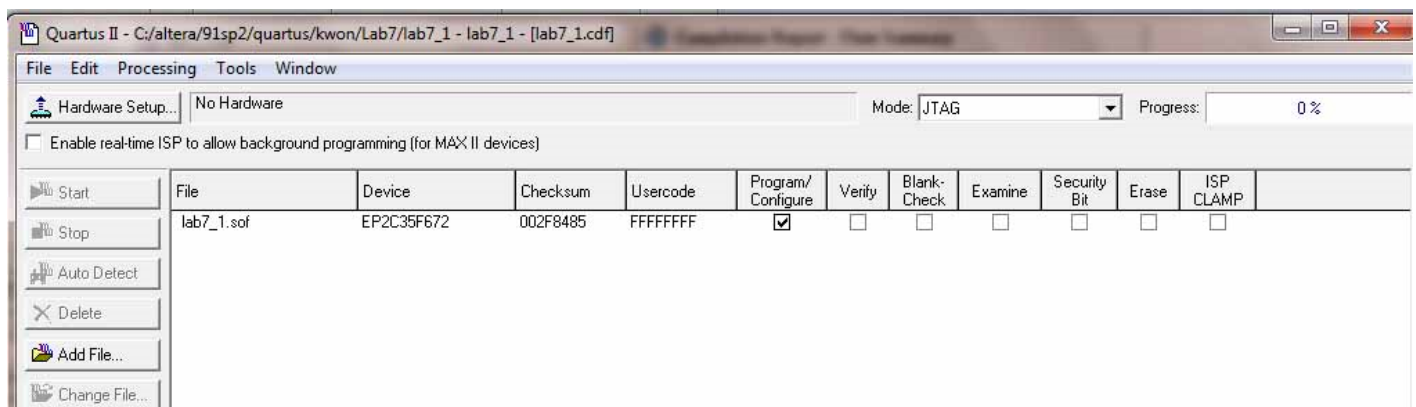
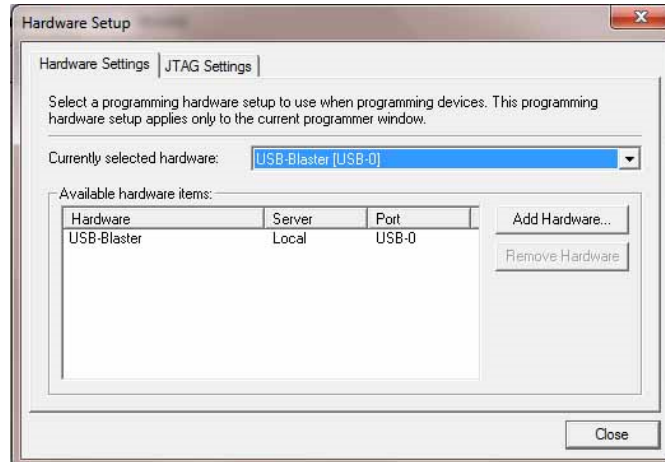

Figure 7-11
Figure 7-12
- Select **Tools > Programmer** to reach the window in Figure 7-11. Here it is necessary to specify the programming hardware and the mode that should be used. If not already chosen by default, select JTAG in the Mode box. Also, if the USB-Blaster is not chosen by default, press the Hardware Setup... button and select the USB-Blaster in the window that pops up, as shown in Figure 7-12.
- Observe that the configuration file *lab7_1.sof* is listed in the window in Figure 7-11. If the file is not already listed, then click Add File and select it. This is a binary file produced by the Compiler's Assembler module, which contains the data needed to configure the FPGA device. The extension *.sof* stands for SRAM Object File. Note also that the device selected is EP2C35F672, which is the FPGA device used on the DE2 board. Click on the Program/Configure check box, as shown in Figure 7-11.